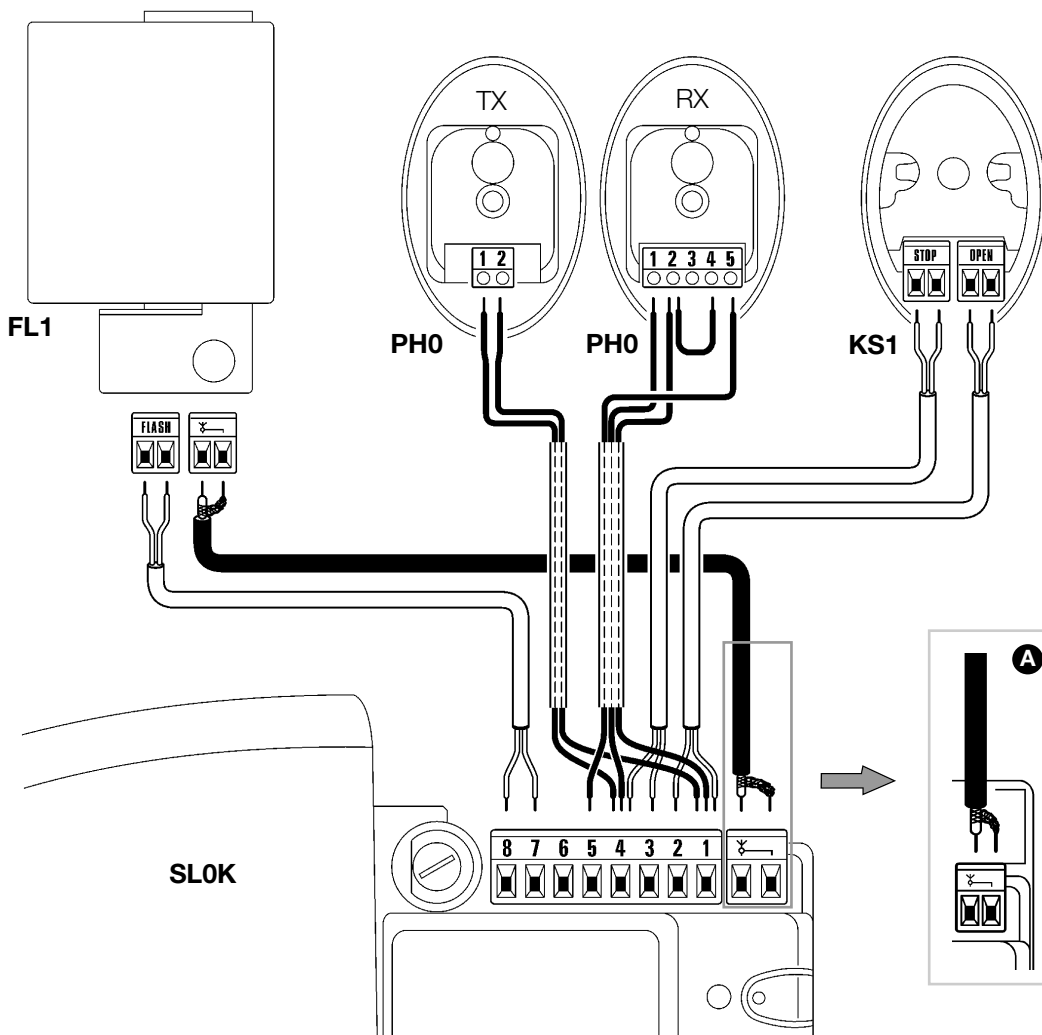

Figure 54
5 Refer to Figure 54 for very low voltage electrical connections of the various devices to the control unit terminals.
- Make connections of the other cables according to the specifications in figure 54. The terminals are removable to facilitate these operations.